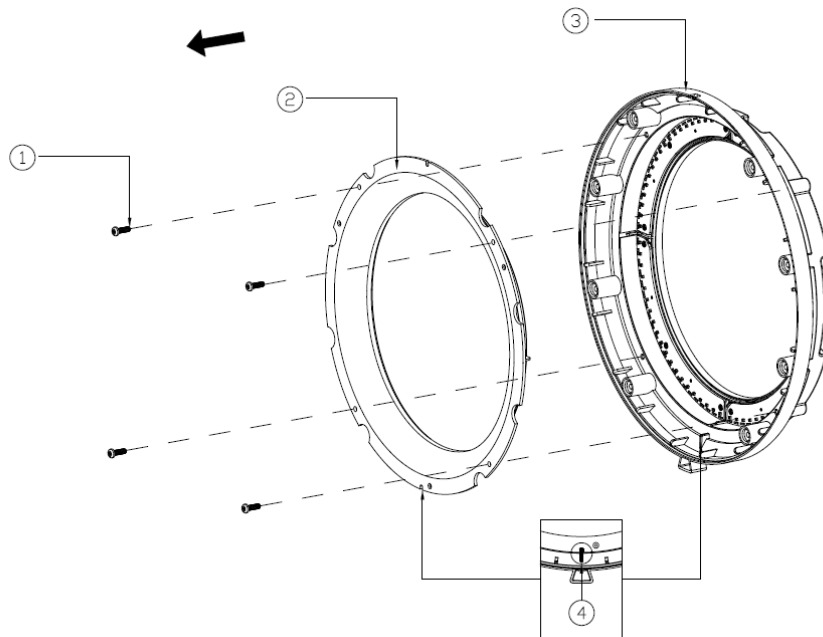

Figure 11-1
(11) Disassemble the Main Body Support-Down and the Diffusion Ring
As shown in Figure 11-1, remove 4 screws①, remove the Diffusion Ring②(RVM100-DIFSR) and the Main Body Support-Down Package③. The specification of the screw is the self-tapping screw, ST3*10mm.